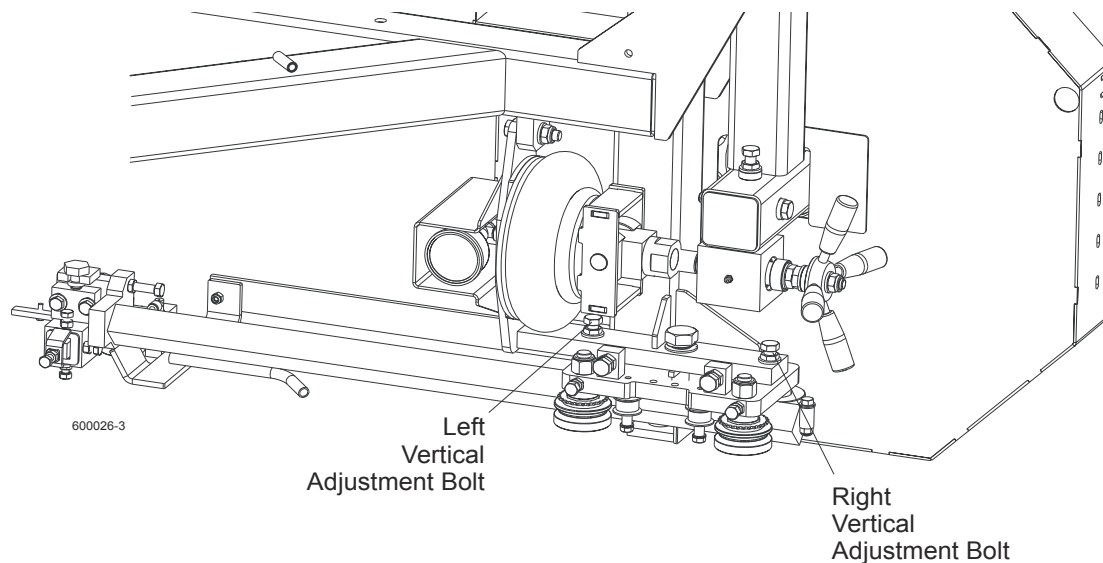

**FIG. 5-30**
**See Figure 5-30.** Adjust the blade guide arm to 1/2" (15 mm) from fully open. Measure the distance from the bottom of the blade guide mounting block to the bed rail. This measurement should be 15" (376.5 mm). If the measurements are not the same, adjust the blade guide arm vertically.